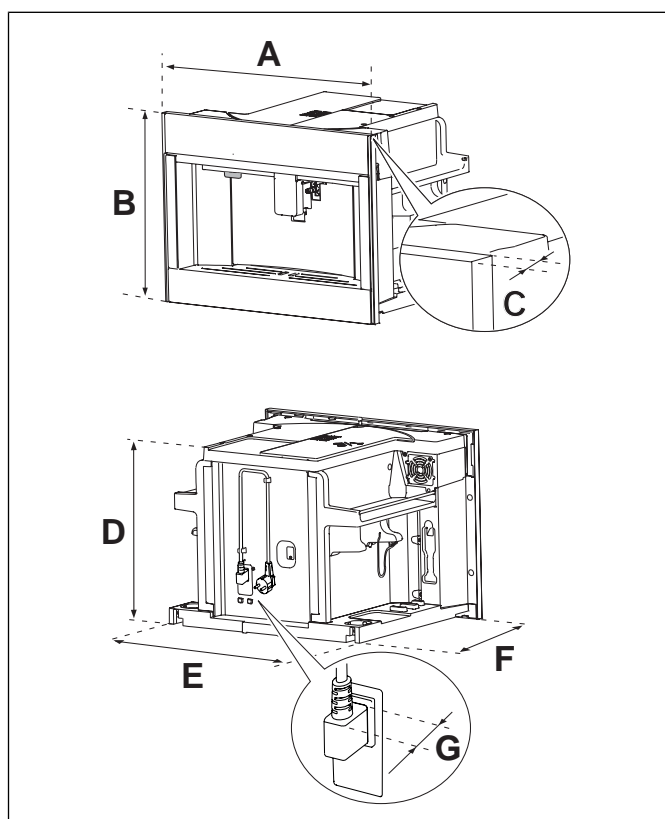
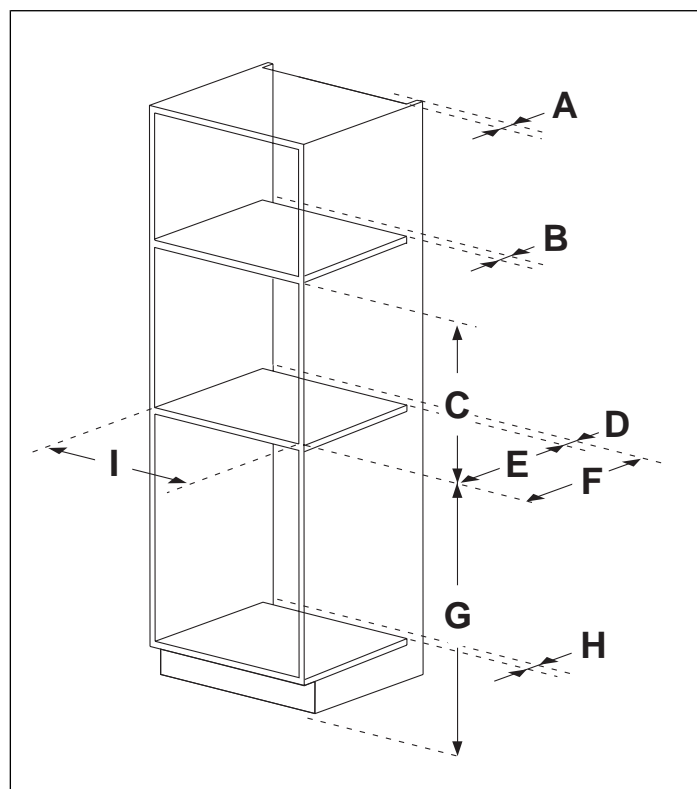

Fig. 2
Fig. 3
- To guarantee correct ventilation, leave a gap at the bottom of the cabinet (see measurements in Fig. 2 and Fig. 3).